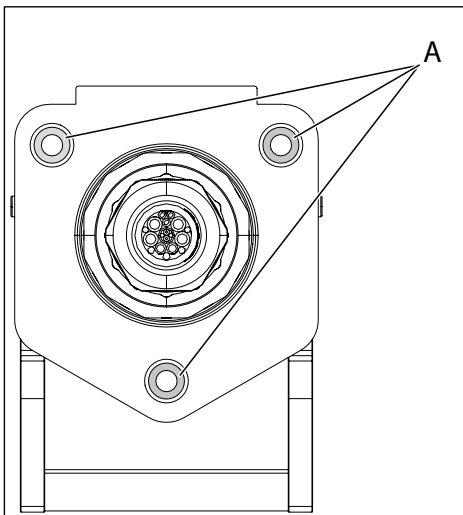
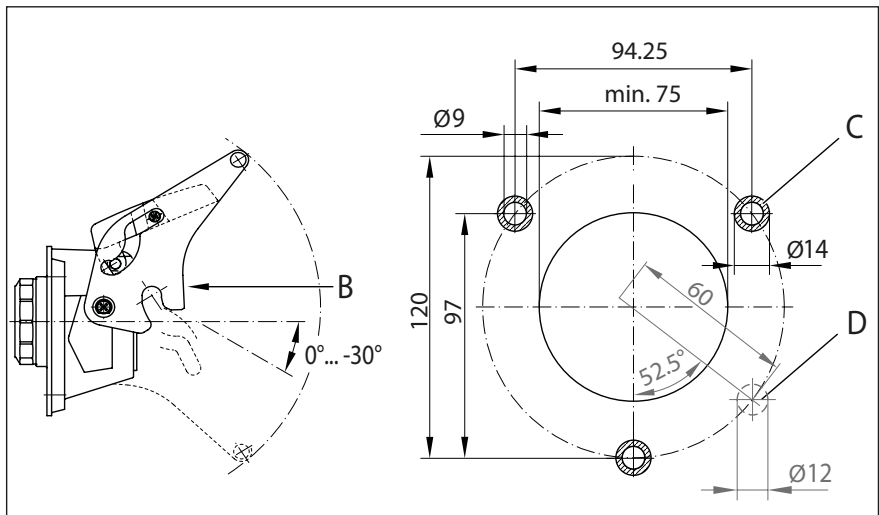

Fig. 7: Coupling socket earthing surfaces
Fig. 8: Mounting holes for coupling or blanking socket
- The dimensions and arrangement of mounting holes must be taken from *Fig. 8*:
- Before installation, ensure that the earthing surfaces *A* (*Fig. 7*) on the coupling socket and mounting surface *C* (*Fig. 8*) are free from paint and any soiling.
- 1.2 Pierce the flange seal at the intended point (H) with a pointed tool and pull the 2 cable wires for the snap-action switch through the flange seal and the prepared separate mounting hole (I) in the vehicle wall. (See also „Fig. 8: Mounting holes for coupling or blanking socket“ on page 10).
- The dimensions and arrangement of mounting holes are identical to those of the coupling socket. See section "5.1 Coupling socket", Fig. 8.
- Before installation, ensure that the earthing surfaces on the blanking socket and mounting surface are free of paint and any soiling. See section "5.1 Coupling socket", Fig. 7 and Fig. 8.